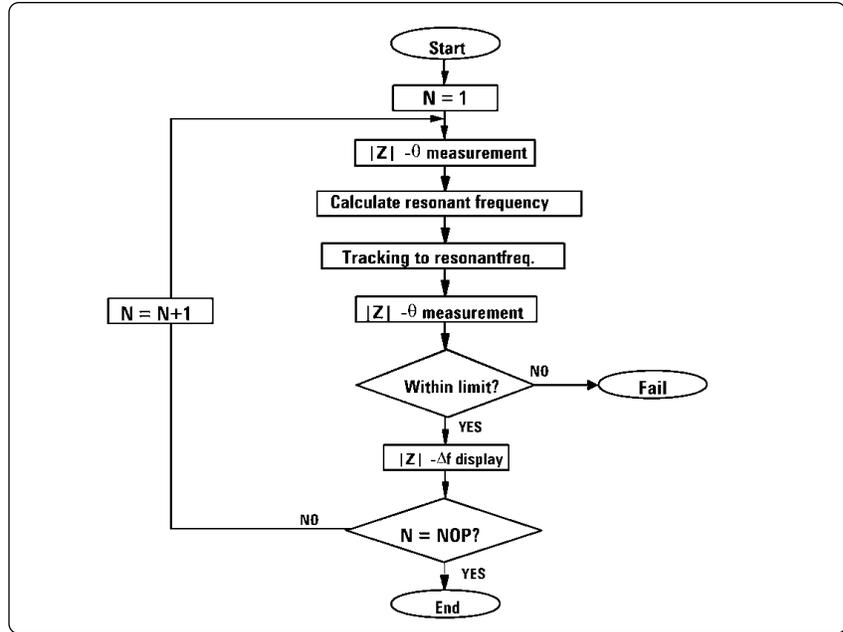

Figure 2. Flow of basic phase tracking functions
The phase tracking measuring function provides tracking to ensure that the measurement signal will reach the phase value (normally  $0^\circ$ ) of the specified resonance, thereby obtaining the frequency and impedance at that phase. Based on the measurement result at the measuring point and the information from the 3 dB bandwidth of the device, the point of  $0^\circ$  phase (the resonant frequency) at that power and level is predicted, and measurement is repeated at the predicted frequency to ensure tracking of the  $0^\circ$  phase. Figure 2 illustrates the basic tracking procedure.
**(resistance):** Spurious response may be present as a specific characteristic of the device. Generally, spurious occurs within a frequency range of  $\pm 10\%$  of the resonant frequency. High-quality resonance circuits can be designed only when resistance of the circuit is sufficiently higher than the resonance resistance at the nominal resonant frequency. Thus, not only the CI value close to the nominal frequency but also spurious level are sometimes evaluated to see if there is any spurious effect. In this case, the measurement shown in figure 2 is performed to confirm differences in resistance between the two. The E5100A uses the maximum/minimum peak values analysis function to provide high speed evaluation of spurious signal resistance and the CI value.